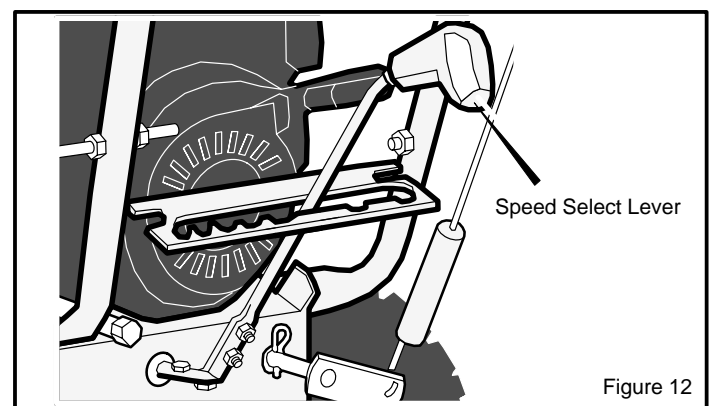

Figure 12
2. Ground speed is determined by snow conditions. Set the **speed select lever** (see Figure 12) in one of the following positions.